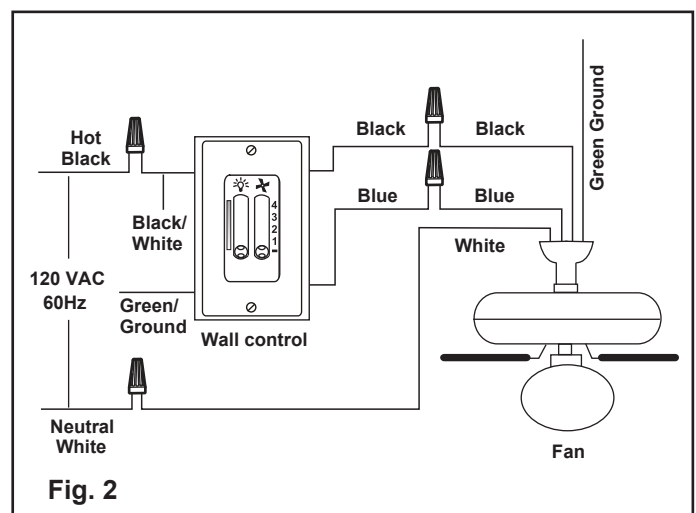

Fig. 2
2. Make wire connections (Figure 2) and secure with wire nuts supplied.